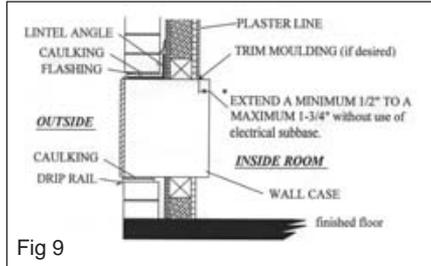

Fig 9
Weather proofing gaps between the exterior wall and the sleeve with caulking or other equivalent weather proofing material(Fig 9)
- If the sleeve is being installed in a wall where the recess 3" or less, a flashing must be installed under the sleeve and extend up 2" on each side. The flashing must include a drip rail as shown above Fig 9.